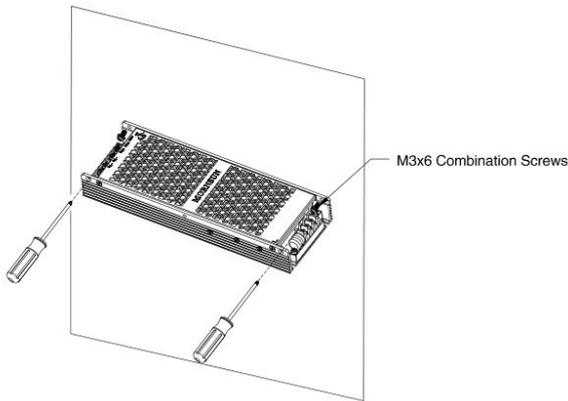

Figure 1
1. Figure 1 is a schematic diagram of side installation, install with M3 x 6 combination screws, derating refer to without aluminum plate curve;